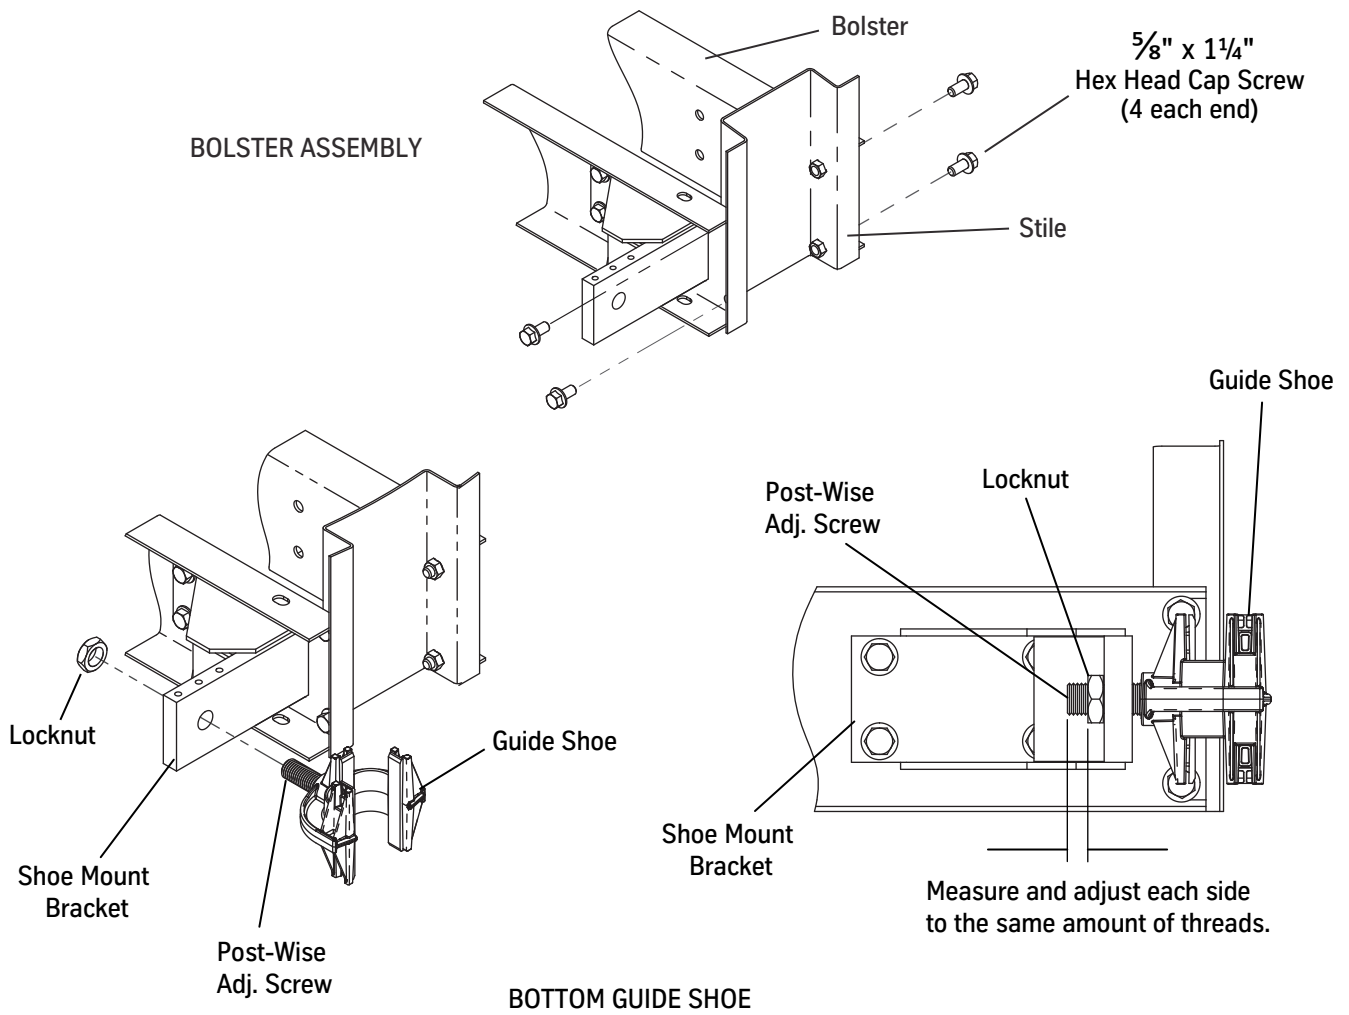

Figure 11 - Install Bolster Assembly and Bottom Guide Shoe
1. Snugly fasten the bolster assembly to the stiles. See Figure 11 for all steps in this procedure.
4. Equally turn both post-wise adjustment screws in until each guide shoe touches its corresponding rail. See also: Figure 11 on page 21.